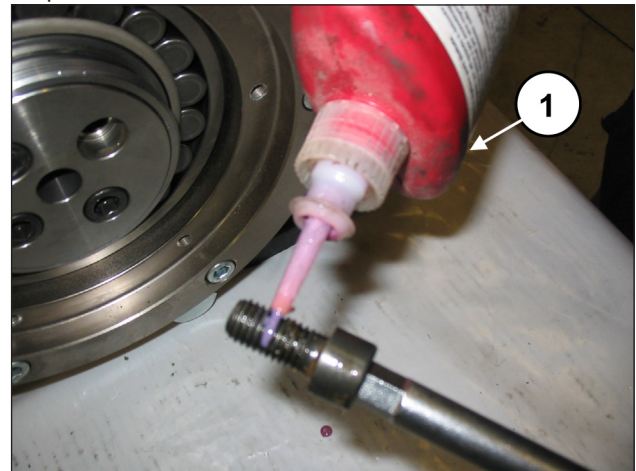

Fig. 88
Apply LOCTITE 243 to the threads of the M12x25 screws (pos. ①, Fig. 88).